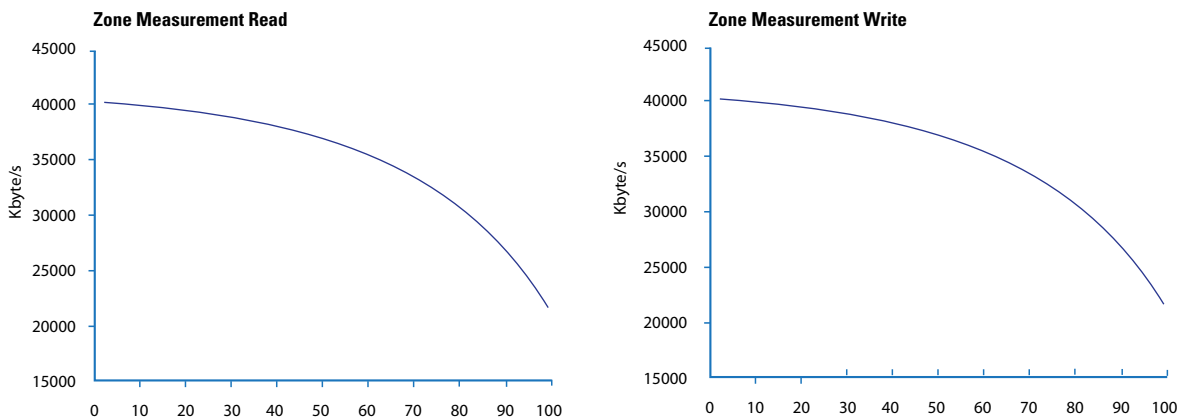

Figure 9: H2Bench Zone Read/Write Charts
Classical mechanics principles tell us that the linear velocity of the platter with respect to the read head is not constant across the entire radius of the rotating platter. At the inner diameter (ID) the disk appears to be spinning at a much slower rate with respect to the read/write head than at the outer diameter (OD.) HDD's use "Zoned Bit Recording" which keeps stored bit density constant across the entire disk⁵. Therefore, at the outer diameter of the disk the read/write head writes more bits per revolution than at the inner diameter. This will result in a net difference in transfer rate between these two areas as shown in the H2Bench benchmark zone read/write charts (see Figure 9: H2Bench Zone Read/Write Charts.) The transfer rate at the inner diameter may be 50% of the rate at the outer diameter.